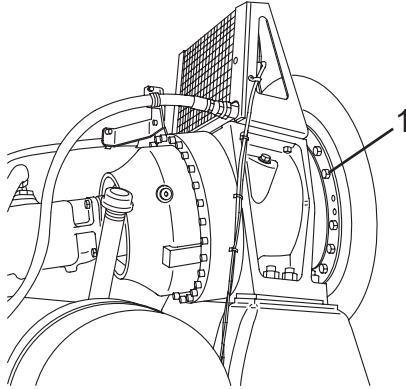

Figure 152
8. Check the drum flange bolt (Figure 152, Item 1) torque. (Refer to the Service Manual for torque values.) If a bolt turns during this check, that bolt must be removed and replaced with a new Grade 8 bolt.